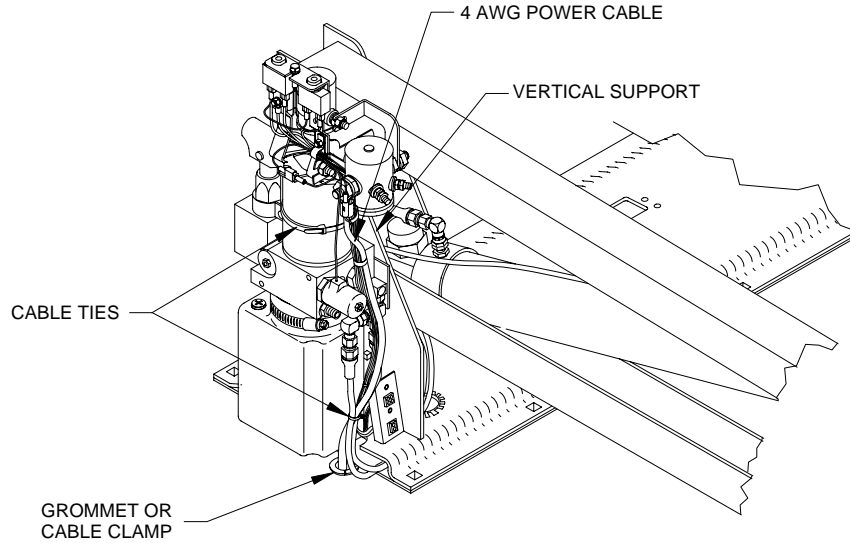

FIGURE 2-9: CABLE ROUTING
- e. Refer to **Figure 2-9**. Cut any excess wire from long cable, install remaining heavy ring terminal to unterminated end of long cable, and connect it to live side of solenoid. Verify that red wire from main circuit breaker (if applicable) is connected to positive solenoid pole.